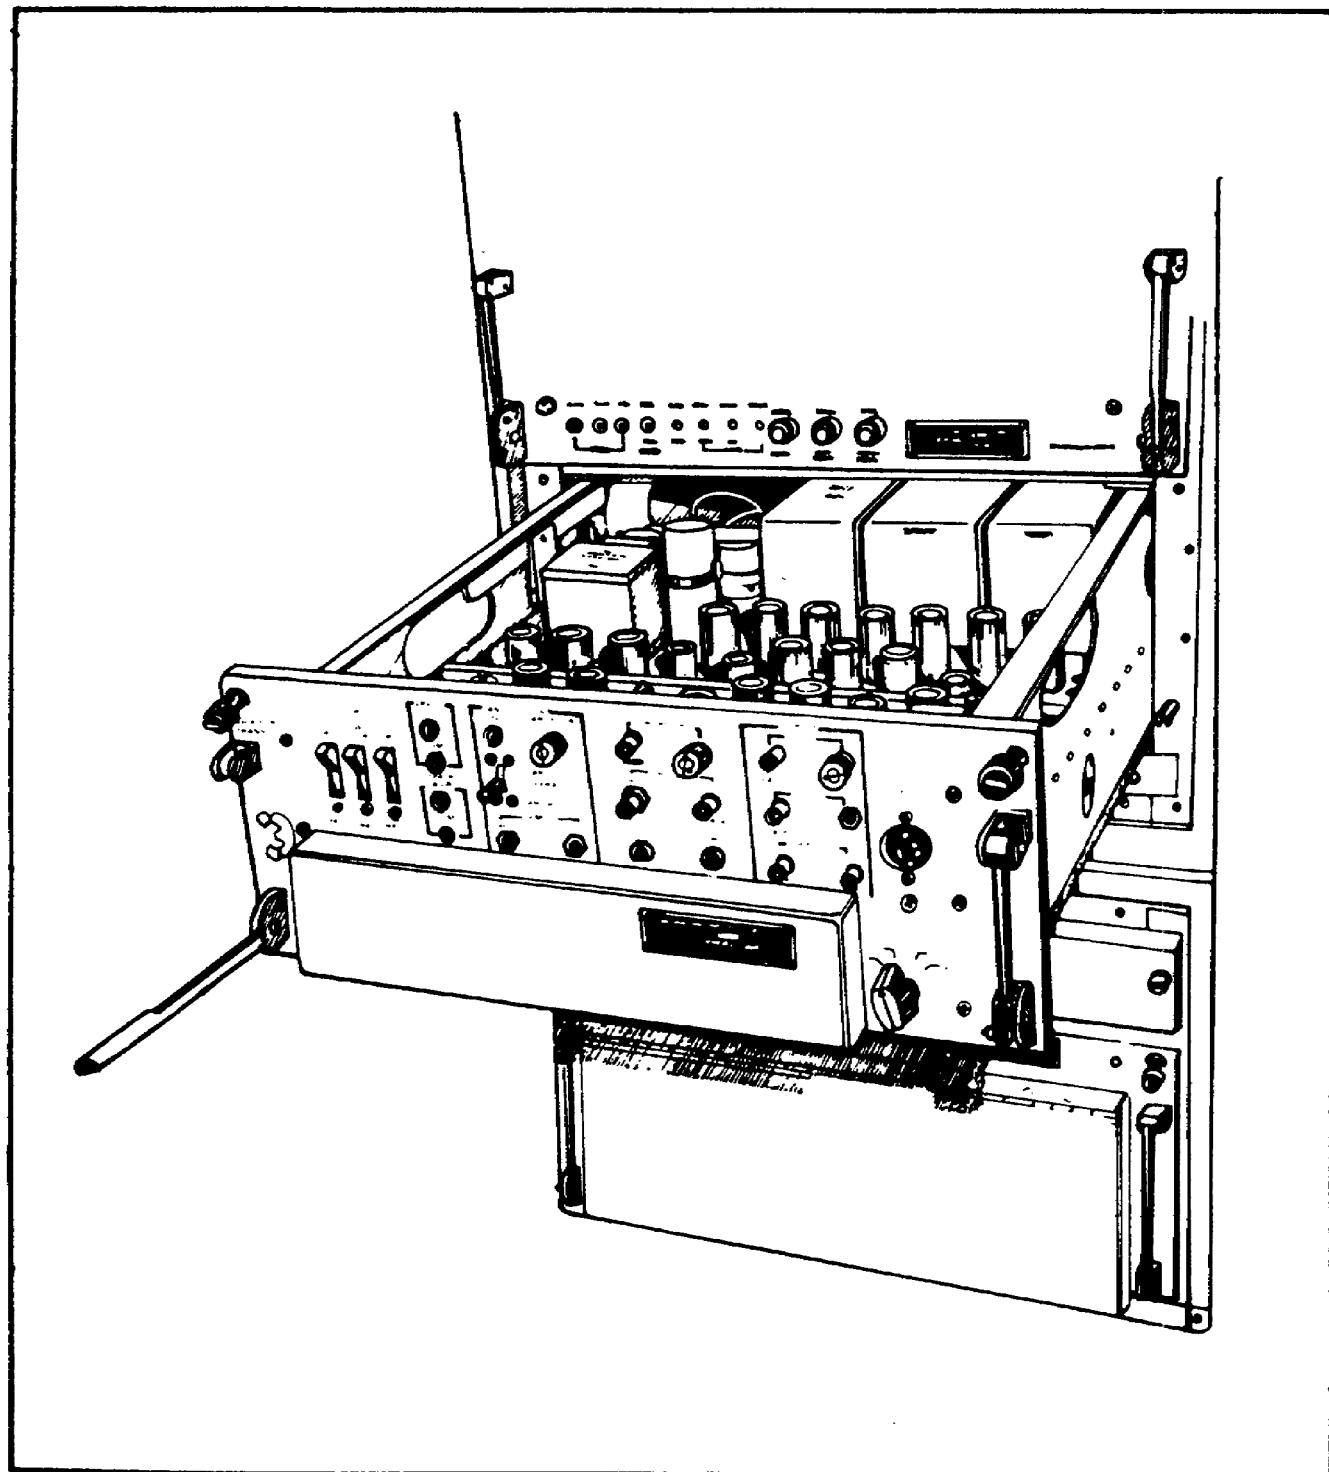

Figure 41. Computer navigational CP-338/FPN-33.
r. Locate and disengage the release handles on computer navigational CP-338/FPN-33 and pull drawer forward to its mechanical stops. (See Figure 41.)
- Computer, navigational CP-338/FPN-33 release handles (Figure 41)